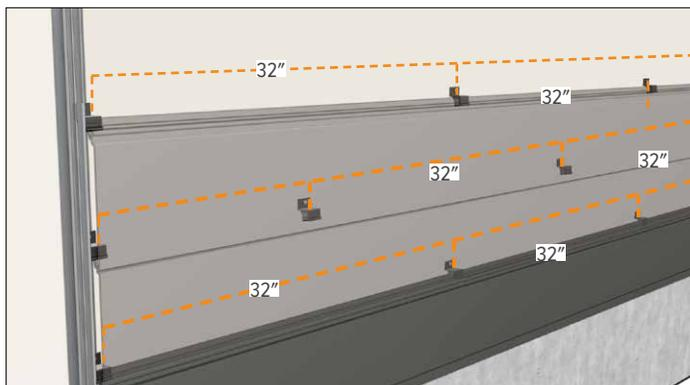

Figure 20.3
22. Stager the Plank Clips from row to row so they do not line up. (Figure 20.3)